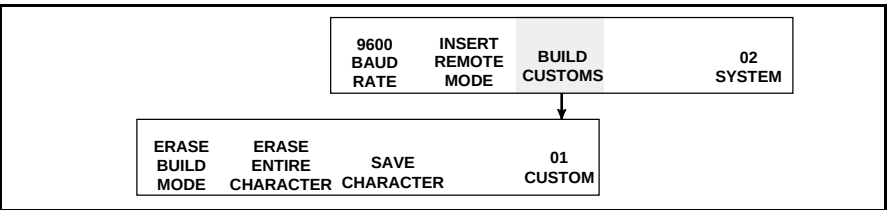

Figure 7-12. Accessing Frame <01 CUSTOM>
1. Begin in Frame <02 SYSTEM>. Refer to Figure 7-12.